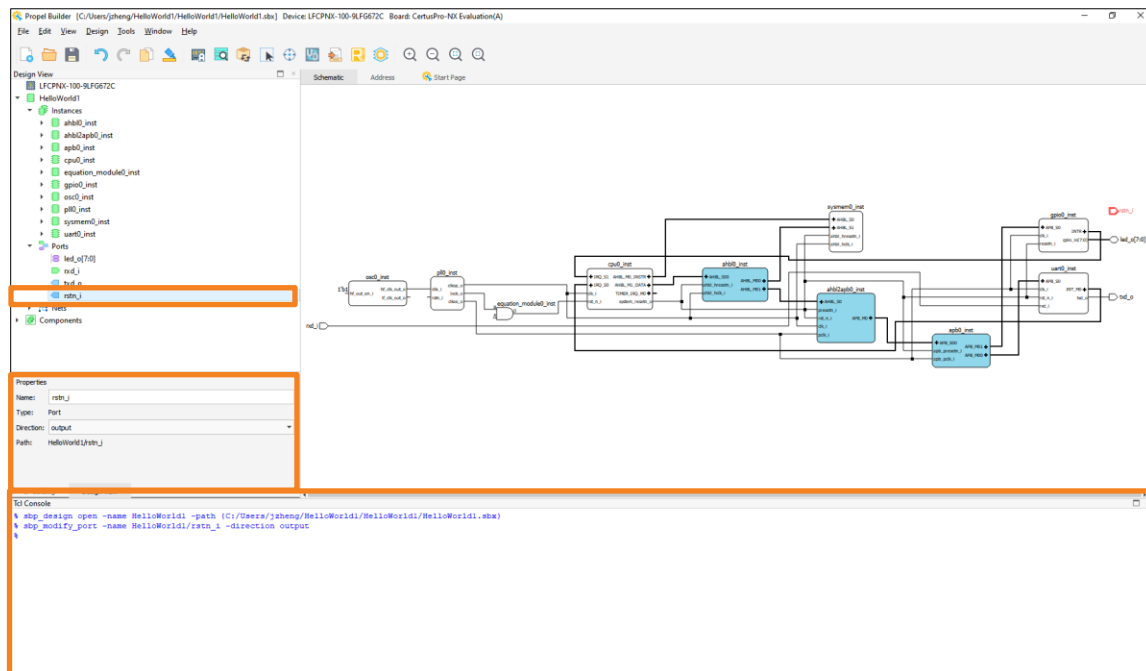

Figure 2.107. Port Direction
- b. Port direction can be modified. You can use the drop-down menu to choose the desired port direction. TCL command is shown in **Design View** (Figure 2.107).
- c. Port width can only be modified if it is already multi-bit. An error message is prompted out or shown in TCL Console, if the input value does not meet rules (Figure 2.107).